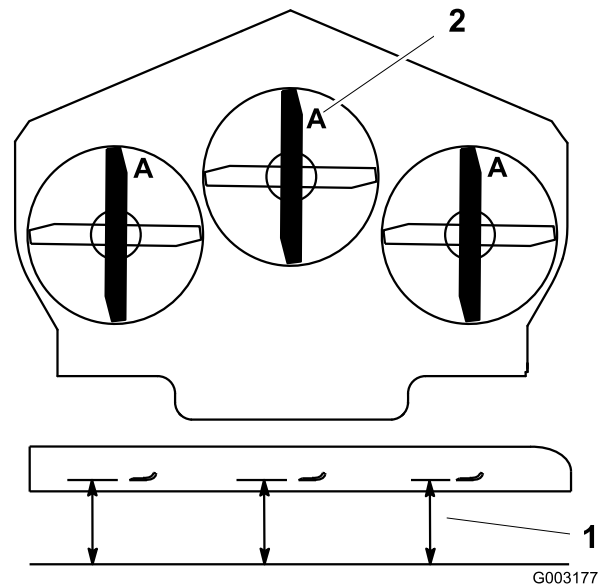

Figure 80
3. Rotate the blades until the ends face forward and backward (Figure 80). Measure from a level surface to the cutting edge, position A, of the blades (Figure 80). Note this dimension.